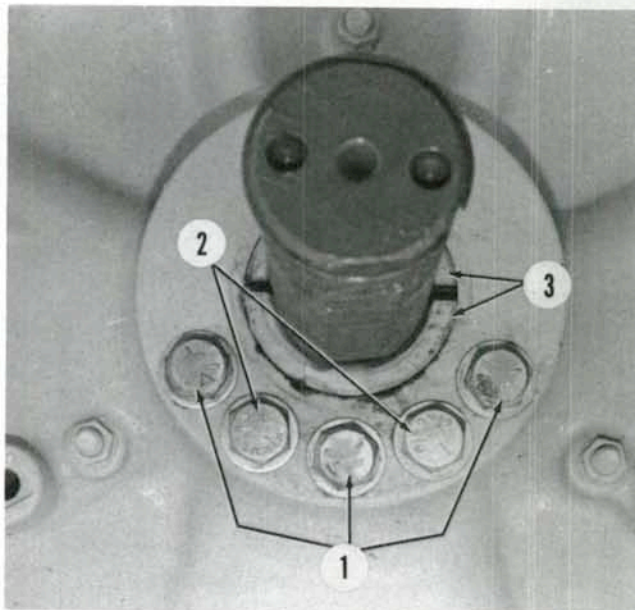

Fig. 236—View of rear wheel wedge retaining bolts.
**170. R&R REAR WHEEL.** To remove rear wheel and tire, first raise rear of tractor and support with a suitable safety stand. Turn rear wheel so wedge retaining bolts (1—Fig. 236) are positioned below axle shaft. Remove the two thread protector bolts (2) and loosen center wedge retaining bolt about 2 inches (50 mm). Remove the two outer wedge retaining bolts (1), insert them in holes (2), and tighten evenly until wheel wedge (3) loosens.
To reinstall wheel assembly, position wheel on axle with loose wedge positioned below axle shaft. Remove two wedge retaining bolts from holes (2—Fig. 236) and reinstall in original holes (1). Tighten the three wedge retaining bolts alternately in 50 ft.-lbs. (68 N·m) increments until final specified torque of 290 ft.-lbs. (393 N·m) is reached. Install the two thread protector bolts in holes (2). If loosened, tighten three bolts retaining upper wedge on inside of wheel to a torque of 290 ft.-lbs. (393 N·m). Drive the tractor about 200 yards (200 m) and recheck retaining bolt torque, then recheck again after one hour and eight hours of operation under load.